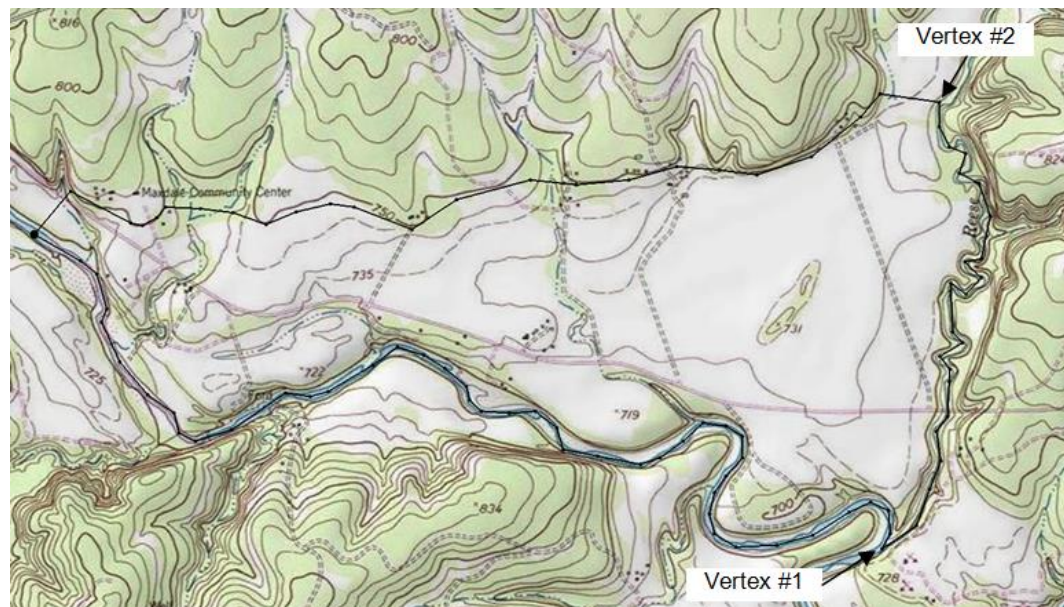

Figure 3 Convert vertices to nodes
- Holding down the *Shift* key, select the two vertices shown in Figure 3. Vertex #1 is located at the junction of the two rivers. Vertex #2 is located at the top of the river on the east side of the model.